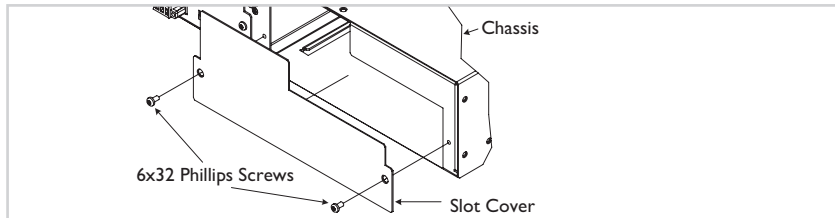

Figure 9: Chassis Power-Supply Slot Cover
3. Remove and keep the two (2) 6-32 philips head screws holding the slot cover. See Figure 9.